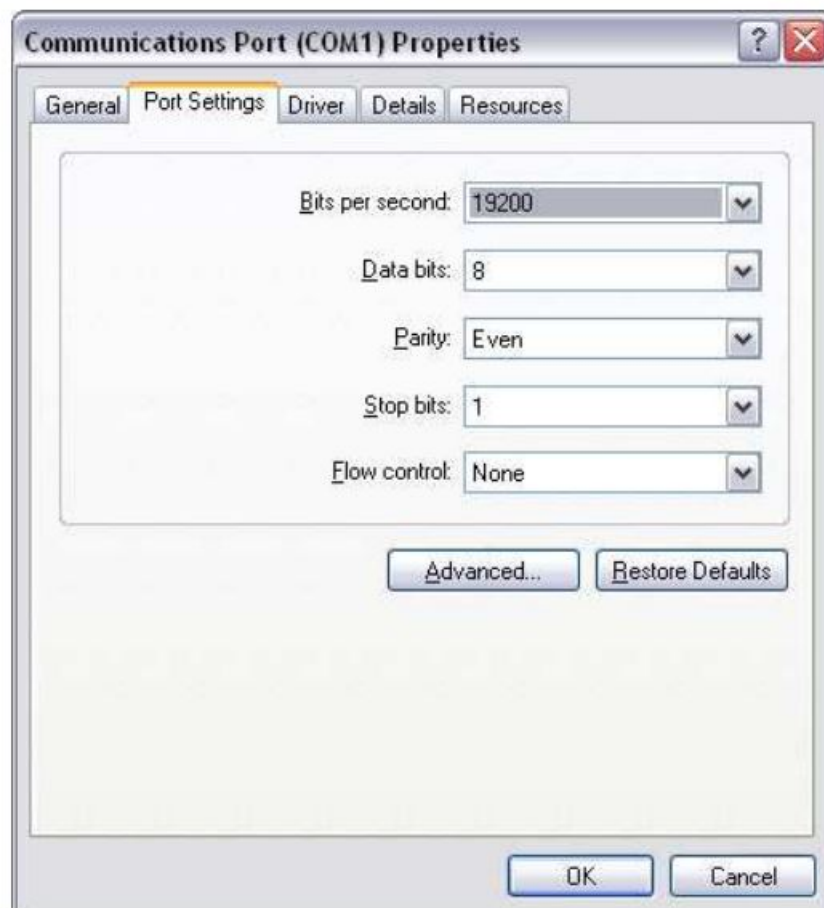

Figure 9. COM Port Settings
3. Select the Port Settings tab and change the settings as shown in Figure 9. Click OK to apply the new settings. Close the Device Manager after this step.